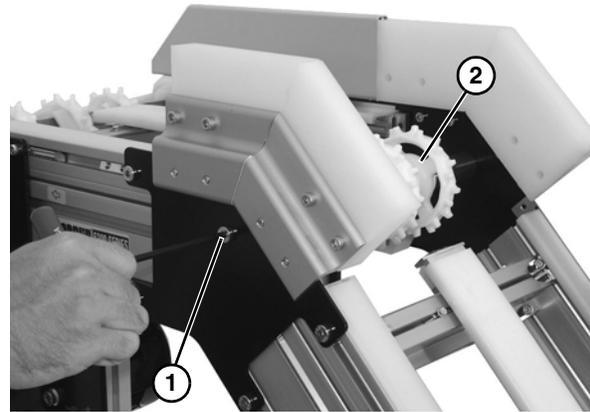

Figure 60
1. Remove socket head cap screw (**Figure 60, item 1**), on each side of upper knuckle assembly, and remove shaft and sprocket assembly (**Figure 60, item 2**).